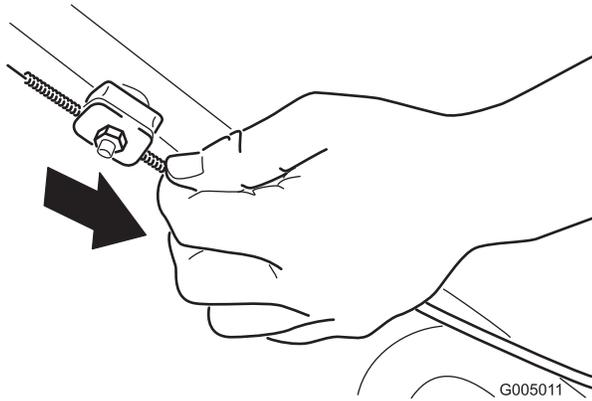

Figure 37
2. Pull down the cable jacket (toward the machine) until there is no slack in the cable (Figure 37).